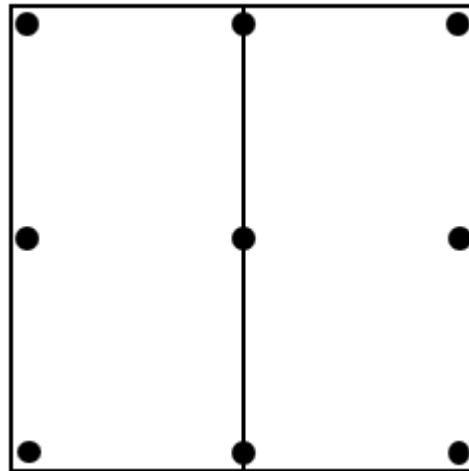

Figure 8.1: Designated Landing Zone Configuration with Stakes
1. One (1) zone with a size of 8 ft x 8 ft.
2. Surface made from two (2) sheets of 4 ft x 8 ft coroplast (corrugated plastic) with a 4 mm thickness. Four (4) sheets of 4 ft x 4 ft coroplast is also accepted but will require additional staking.
3. Surface staked into the ground with a minimum of nine (9) stakes (Figure 8.1). Intent is a stake every four (4) ft. Stakes are eight (8) inch or longer, metal, and fully embedded into the ground.